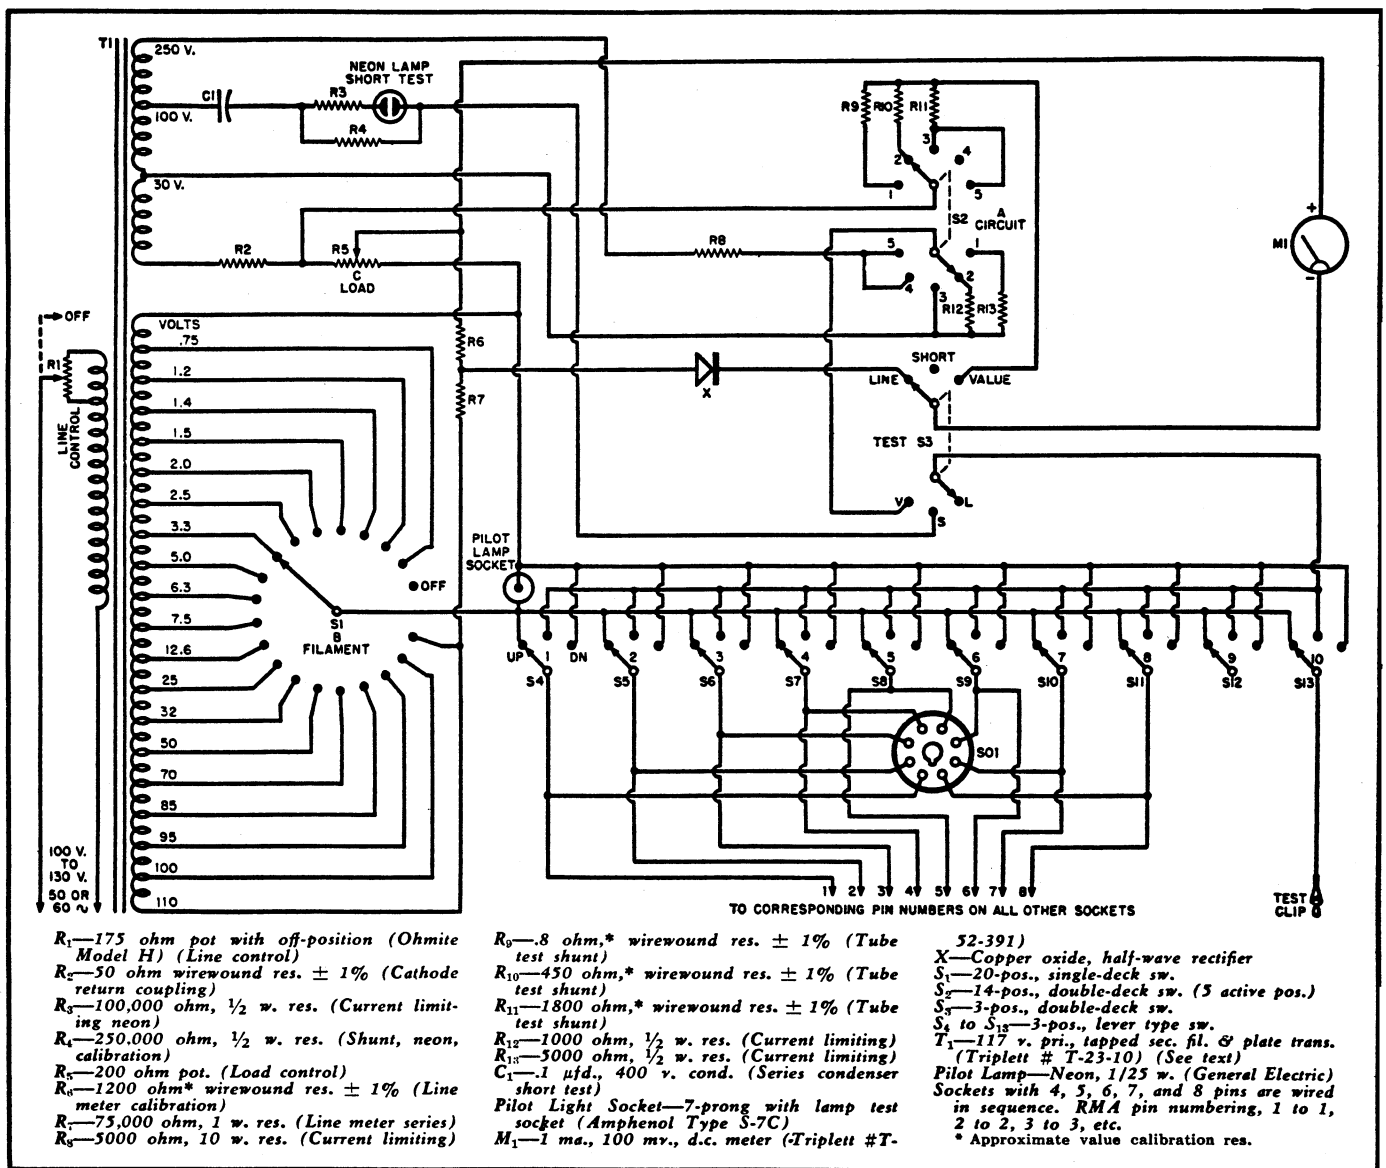

Fig. 2. Schematic diagram of tube tester. Circuit permits a thorough test of all tube elements, shields, and taps.
Fig. 2 shows the circuit of a Triplett Model 2413 tube tester. Most of the components may be obtained from regular radio parts suppliers. The transformer is special for this application and while generally not available on the open market, two or three separate transformers with secondary voltages as shown may be used instead. (*Editor's note: Tube tester transformers of various ratings are available from most parts dealers. Obtaining one with the exact ratings required is rather an impossibility, however as suggested by the author, two or possibly three separate transformers can be used. A transformer of this type can be home built. The article "Practical Transformer Design and Construction" published in the June, 1947 issue of RADIO NEWS will provide full details on how this can be done.*)
Fig. 3. Simplified circuit diagram of each of the several test circuits incorporated in tube tester: (A) for diode type tubes, switch S_2 in position 1; (B) for filament type triode and pentode tubes, switch S_2 in position 2; (C) for indirectly heated cathode type triode and pentode tubes, switch S_2 in position 3; (D) for target and eye tubes, switch S_2 in position 4 and for gaseous rectifiers and gaseous control tubes, switch S_2 in position 5; (E) short check, switch S_2 in "Short Check" position. Switch positions refer to the schematic diagram, Fig. 2.